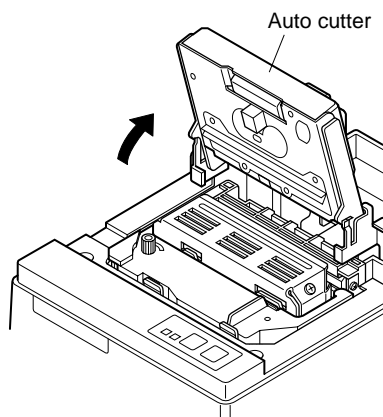

Fig. 4-9 Raise the auto cutter
- ① Turn off power to the printer.
- ② Lift the cover up approx. 3 cm. Hold the cover tilted at this angle, then pull it toward you to remove it.
- ③ Lift up the auto cutter and put it in a vertical position, as shown in Fig. 4-9.